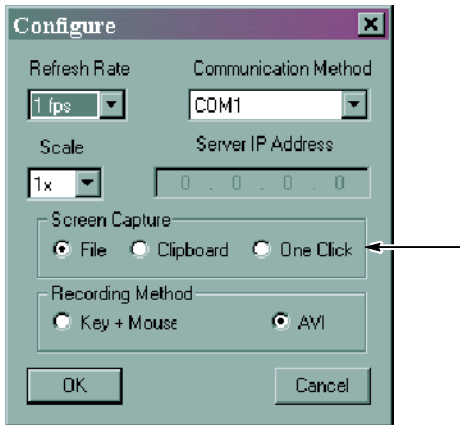

Figure 3-10: Setting the screen capture method
1. To specify the capture method, click the wrench icon () . This displays the Configure window shown in Figure 3-10.